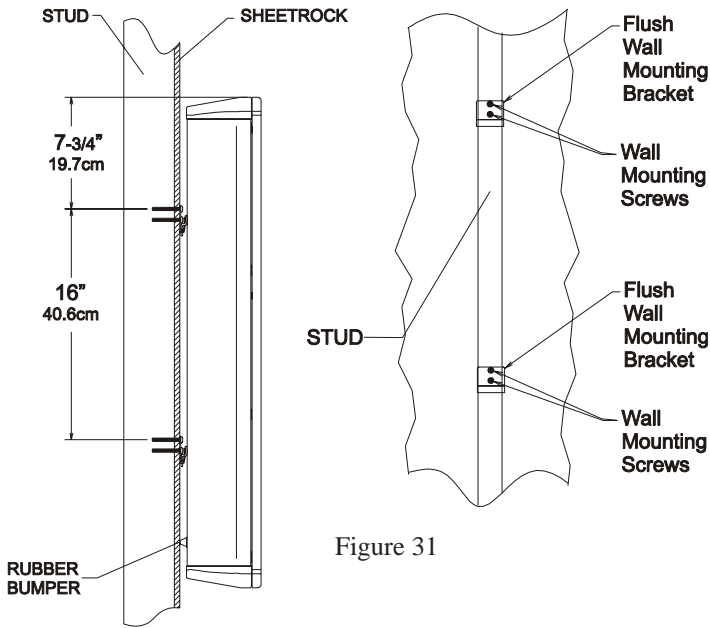

Figure 31
- Refer to figures 31 thru 34 to install the appropriate Wall Bracket on the wall (orient the bracket as illustrated) using the supplied Mounting Screws. If the Flush Mount Bracket is used, attach the two cone shaped rubber